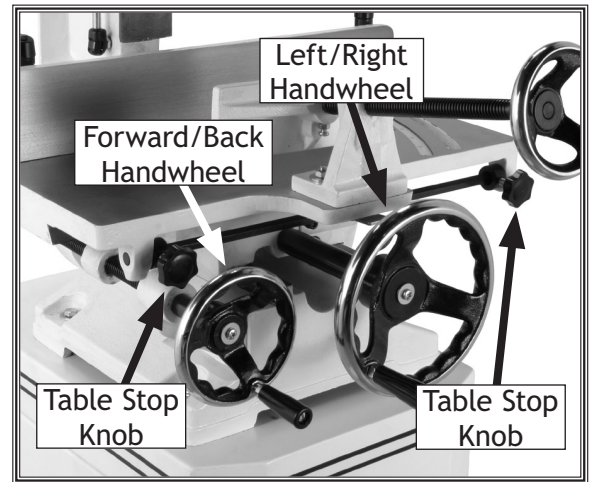

Figure 13. Table controls.
1. Move the forward/back handwheel (**Figure 13**) to move the table toward or away from the operator.
2. Move the left/right handwheel (**Figure 13**) to move the table horizontally.
3. Use the table stop knobs (**Figure 13**) to control how far the table moves to the left and right.